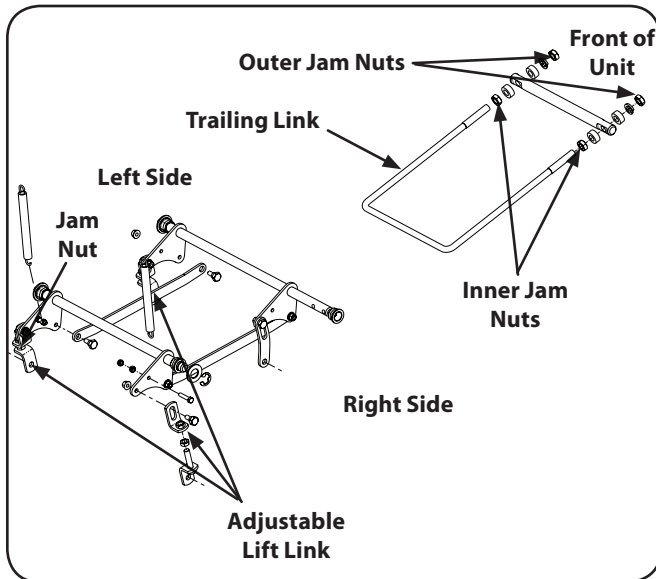

Figure 6-6
5. With a $\frac{3}{4}$ " wrench loosen the lower jam nut of the left side of the lift link. To adjust the side of the deck up or down turn the upper jam nut clockwise (to raise) or counter clockwise (to lower) a few turns. See Figure 6-6.
8. The final adjustment would be to set the Trailing Link by adjusting the jam nuts on the threaded link. Loosen the jam nuts and tighten the inner nut to achieve the correct length and belt tension. See Figure 6-6.
To tighten or loosen the tension on the belt, tighten or loosen the jam nuts on the U-rod, see Figure 6-6, until a ten-pound pull with a spring scale deflects the belt about $\frac{1}{2}$ ".